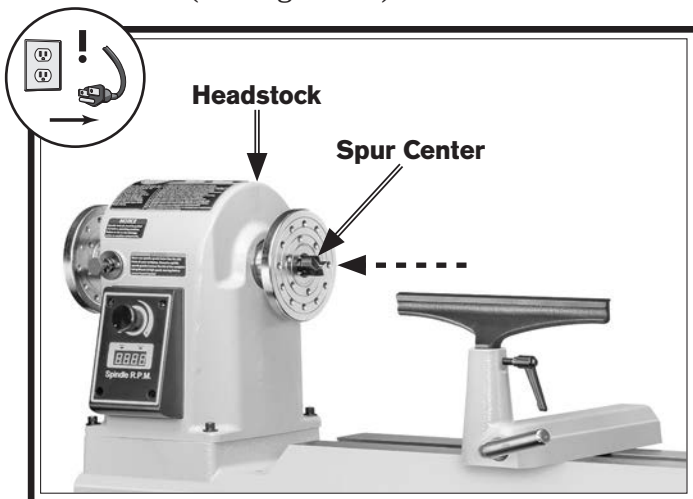

Figure 21. Center installed in headstock spindle.
3. Firmly insert tapered end of center into spindle, then push it in with a quick, firm motion (see Figure 21).